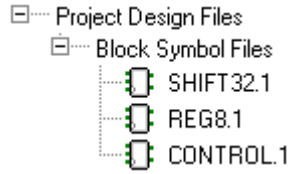

Figure 11- ViewDraw symbols on Libero IDE File Manager tab
3. The ViewDraw symbol will be visible under Block Symbol Files on the File Manager tab (Figure 11).